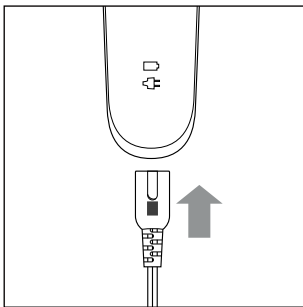

Fig. 1
- ▶ The appliance is powered by a rechargeable lithium-ion battery. Before using the appliance for the first time, the battery must be charged. The plug LED 🔌 ⑦ lights up red during charging.
- ▶ If the plug LED 🔌 ⑦ flashes red, the battery is nearly completely discharged.
- 1) Switch off the appliance (if necessary) using the On/Off switch I/O ⑤ by sliding the On/Off switch I/O ⑤ to the position O.
- 2) Connect the barrel plug ⑨ of the mains adapter ⑧ to the appliance (see fig. 1).
- 3) Plug the mains plug of the mains adapter ⑧ into an easily accessible mains socket (100 – 240 V ~, 50/60 Hz).
- 4) Switch the appliance on by sliding the ON/OFF switch I/O ⑤ to position I.